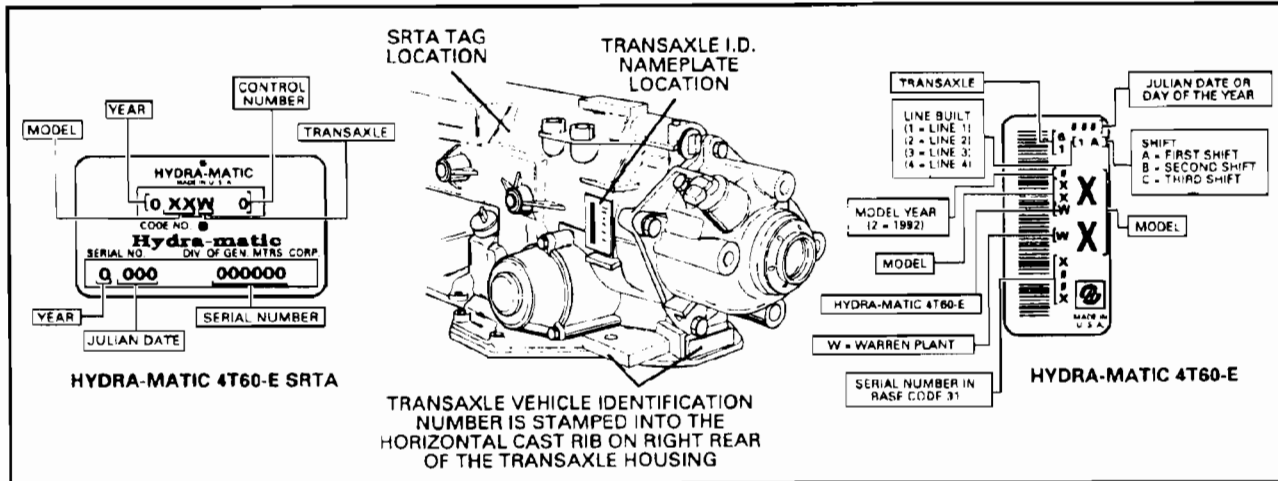

Figure 43
**COMPLAINT:** Some vehicles equipped with the THM 4T60-E transaxle built on or before January 26, 1993 (Julian Date 026) may exhibit no converter clutch apply, or a converter clutch apply shudder condition. Either one of these conditions will usually store diagnostic code 039 in the PCM memory. Vehicles built after the above Julian Date have a new design Pulse Width Modulated (PWM) Solenoid with added screens. Refer to Figure 43 for Julian Date identification. Excessive heat on torque converter may be visible when this condition exists.